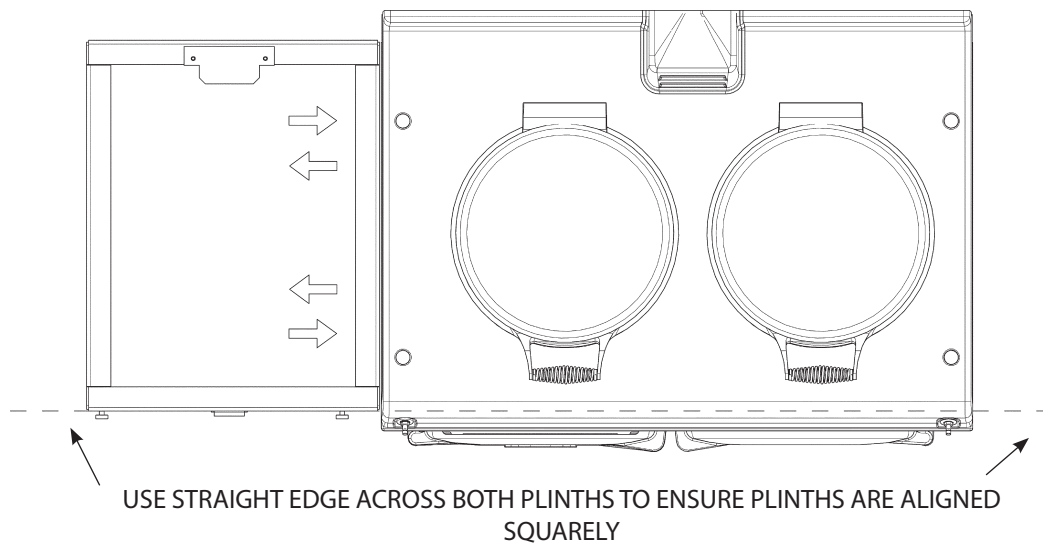

Fig. 12.5
4. Run a straight edge along the front of the AGA R7 100 plinth, to ensure the front face of both plinths sit squarely against the straight edge. (**Fig. 12.5**)